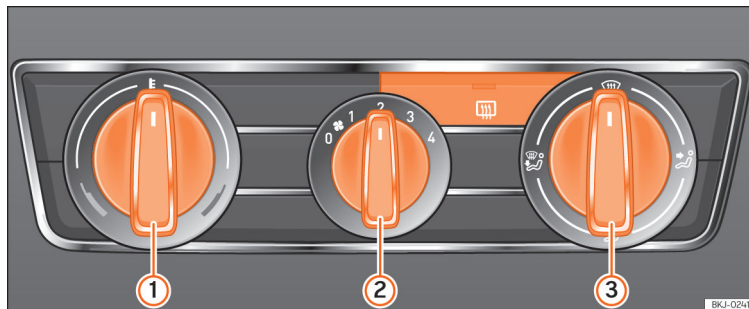

Fig. 169 Heating controls on the dash panel.
»» Fig. 169 ① anti-clockwise.
- Turn blower switch ② to any of the levels 1-4.
- Set the airflow to the desired direction using air distribution control ③.
»» Fig. 169 ① clockwise to select the required temperature.
»» Fig. 169 ① clockwise to reach the maximum temperature.
- Turn the blower switch ② to level 4.
»» Fig. 169 ① to the heating zone.
- Turn blower switch ② to any of the levels 2-3.